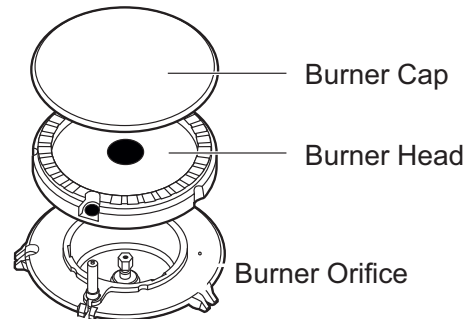

Figure 33: Removable burner components
1. Remove the burner cap and burner head (see Figure 33). Clean the cap and head with hot soapy water and dry thoroughly.